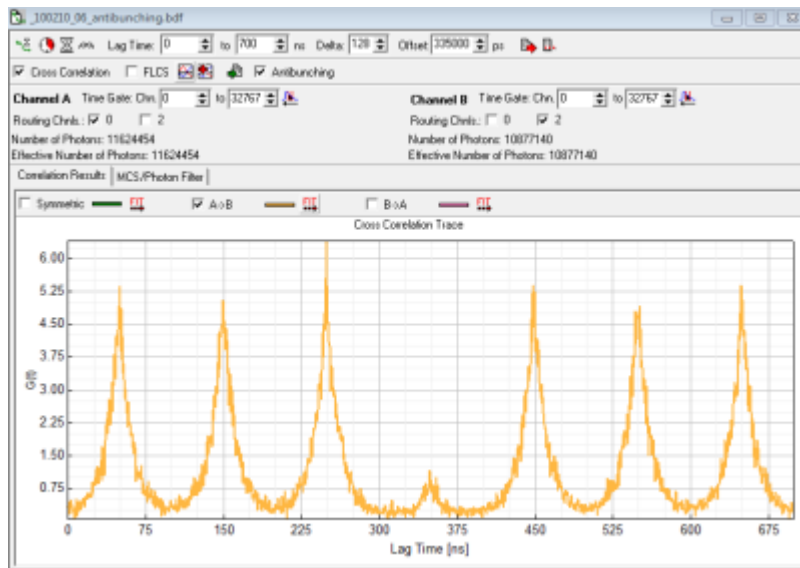

Figure 1: Correlation of Antibunching Measurement. Sample Diamond_NV_centers. Laser rep. rate 10 MHz for details
Figure 2: Correlation of Antibunching Measurement. Sample Diamond NV centers. Laser repetition rate 40 MHz. Note the peak near the expected dip at lag-time=0 due to SPAD afterglow. Compared with figure 1 the expected dip has not been shifted to the center of the x-axis and the emission bandpasses have not been placed directly in front of the detectors but in the emission filter wheel in front of the tube lens.
- depending on preference set laser repetition rate in order to allow full fluorescence to fully decay or highest possible rate or cw-excitation. The advantage of the highest possible repetition rate (or even cw) is better resolvability of the dip, disadvantage is that fluorescence does not decay completely during the pulses. (Compare figure 1 (10MHz) rep. rate and figure 2 (40 MHz) rep rate).
- However to move the expected "dip" to the center of the x-axis we here use the half of the x-axis range minus the difference in cable length (700ns/2 - 15 ns =335000 ps). (see figure 1)
The symmetric correlation, which is shown automatically will only show a small "dip" as it is the average of AxB **AND** BxA in the case of figure 1 AxB will have its dip at 350 ns and BxA will have its dip at -350 ns. Therefore only one of both correlation (here AxB) should be displayed.